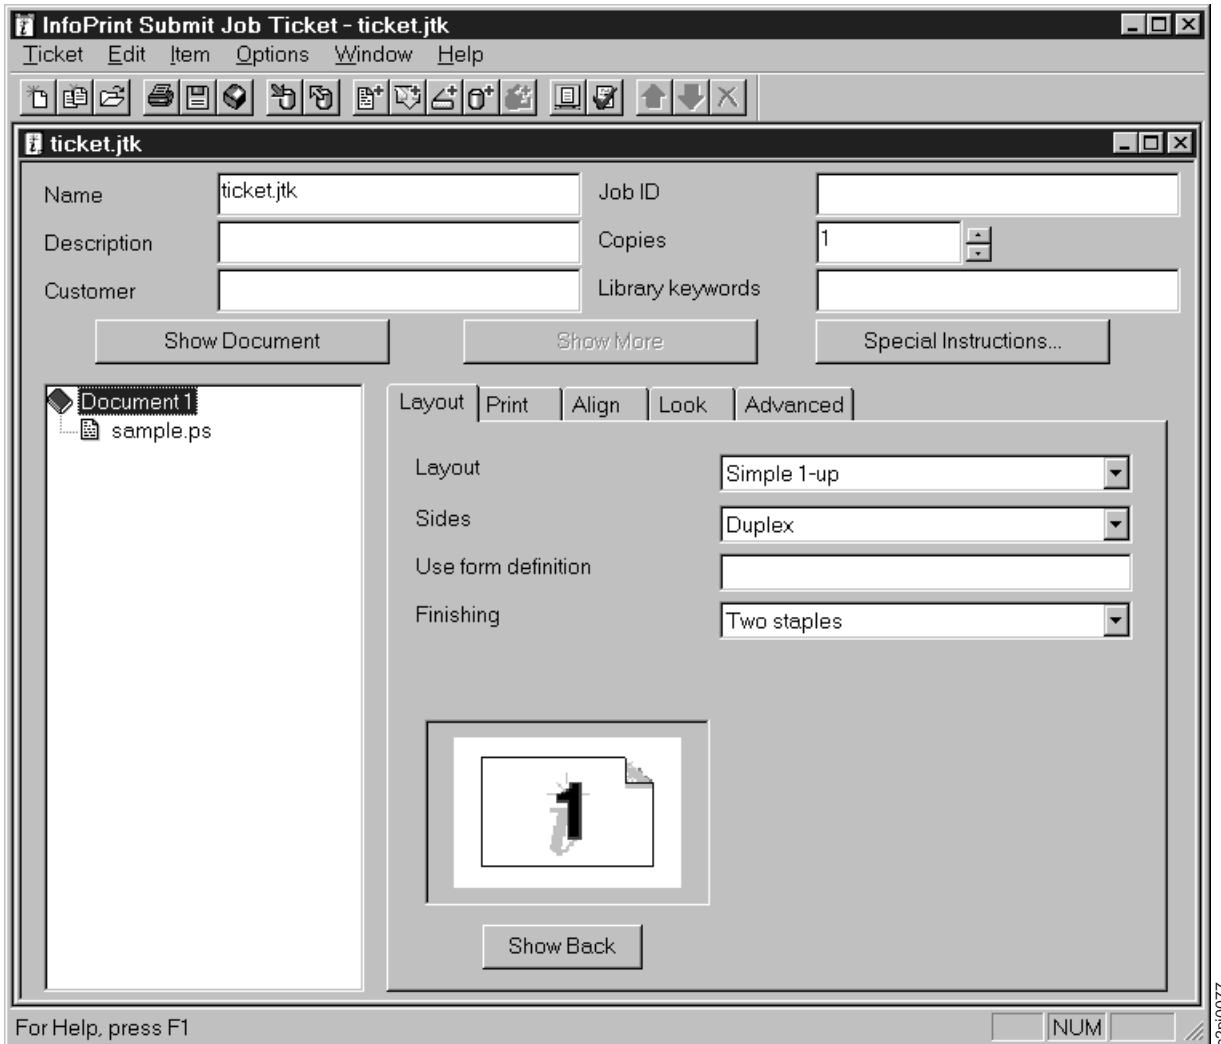

Figure 42. Edge-Stitch 2 Left - Layout Tab
1. From the InfoPrint Submit Job Ticket window (Figure 42), insert the files to be printed or finished.